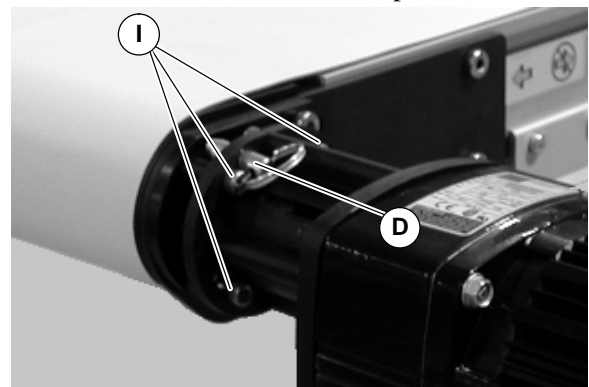

Figure 6
5. Tighten screws (I of Figure 6) to 146 in-lbs (16.5 N-m) and install anti rotation pin (D).